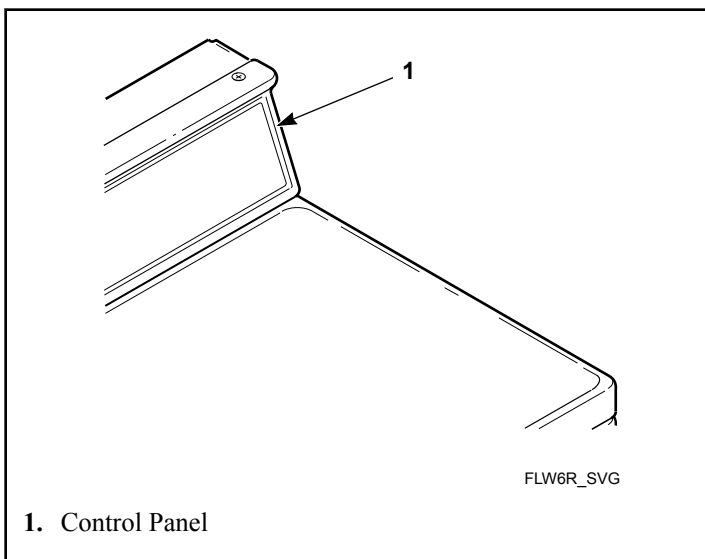

Figure 14
1. Open control panel. Refer to *Figure 14*.